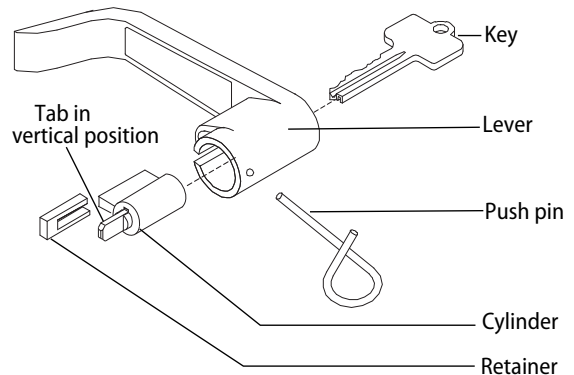

Figure 5 Installing a standard key cylinder
- 1 Place the cylinder inside the lever. See Figure 5.
- 3 Insert the key into the cylinder and rotate the key 90 degrees clockwise. Slide the lever assembly onto the spindle until the lever clicks as it engages against the lever catch.